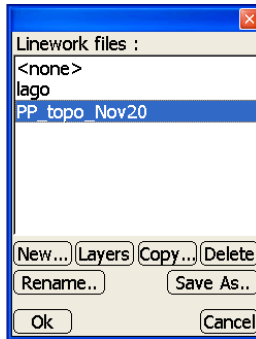

Figure 3-72. Select Linework File
The **Linework files** dialog box shows the current file loaded and any other available files (Figure 3-72). To change the Linework file, select it and pick another file from the list, then press **Ok**. At the verification screen, tap **Yes** to use this Linework file for the current project. Linework files can be created, copied, or deleted.
- **Rename** – opens the *New linework file name* dialog box (Figure 3-72 on page 3-48) for changing the name of the selected file.
- **Save As** – opens the *New linework file name* dialog box (Figure 3-72 on page 3-48) for saving the selected file as another file.
- **Copy** – copies a file from either the compact flash card to the internal memory or from the internal memory to the compact flash card. The touch screen display lists all files available for copying. To copy a file, select a file, then press **Copy** (Figure 3-72 on page 3-48).
- **Delete** – removes an existing file from the internal memory. To delete a file, select a file, then press **Delete** (Figure 3-72 on page 3-48).